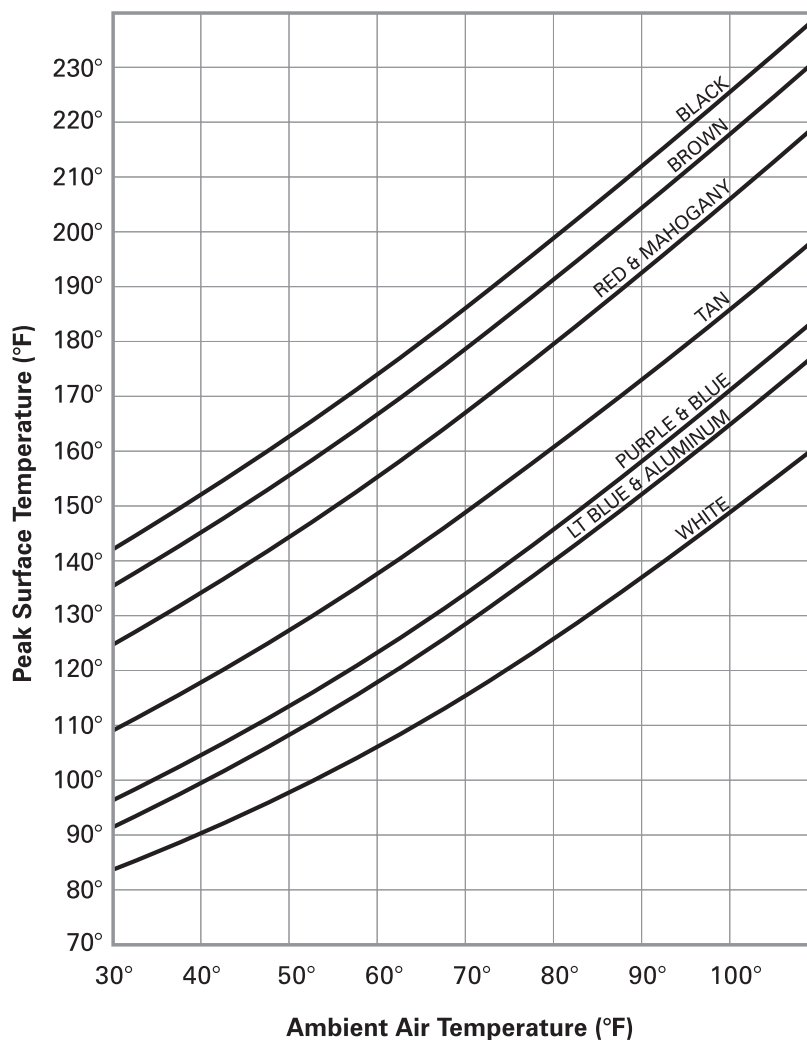

Figure 7-1 Effect of color on surface temperature under sunlight.
4. Lighter colored woods are more reflective than darker colored woods, just as lighter colored paints are far more reflective than are darker colors (*Figure 7-1*).
The longest-lasting finishes are fully pigmented paints. Pigments filter out all or most of the harmful UV rays, thus protecting the substrate. However, a slow oxidation of the surface occurs over many years, causing it to lose its gloss. Light colored paints are more reflective and maintain their gloss longer than darker colors. Protecting the substrate from heat is another important reason to choose lighter colors (*Figure 7-1*).